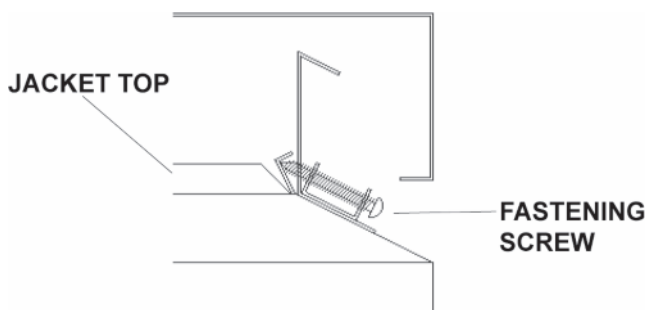

Fig. 7: Installing Outdoor Top Detail—Models 0514–0824
2. Tighten the (4) screws (as indicated in Fig. 7) until they come in contact with the unit jacket top, then evenly tighten all (4) screws to secure to unit.